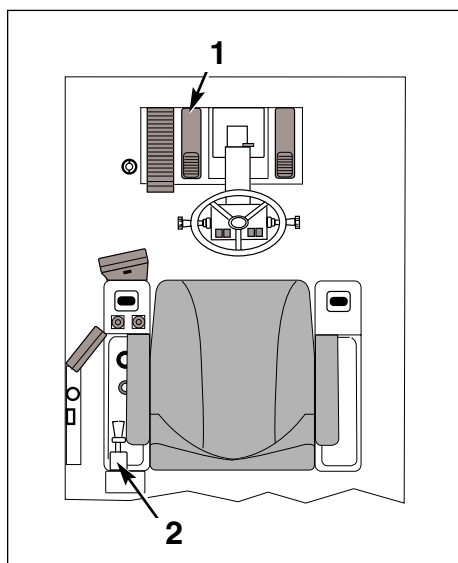

Fig. 1
- Apply the parking brake (2 fig. 1).